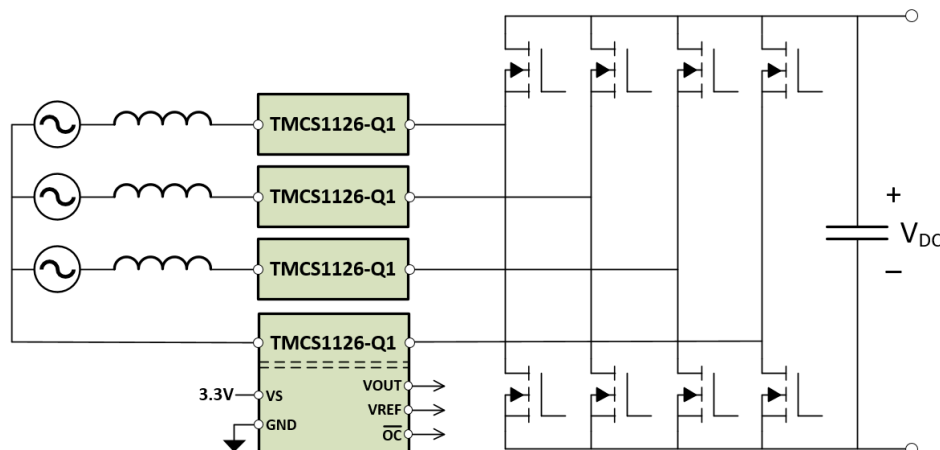

Figure 9-2. AC to DC Converter Current Sensing
In many applications, power must be converted from AC sources for use in DC circuitry. Some type of controlled power factor correction (PFC) stage is typically needed to improve power transfer efficiency. Faster and faster power switches are being used in modern PFC stages to reduce overall size and to improve power transfer efficiency. Often, the PFC stage of AC to DC converters is connected directly to AC power grids. A primary challenge to sensing in PFC stages is that the current sensor is subjected to large voltage spikes coming from the high-voltage (HV) power grid along with large transients coming from high speed power switches during charge transfer. Inherent isolation in the TMCS1126-Q1 construction helps overcome these challenges by providing high levels of isolation between the HV current sensing nodes and low-voltage control circuitry, with high common-mode transient immunity (CMTI). Figure 9-2 shows the use of the TMCS1126-Q1 measuring phase currents in a common AC to DC converter stage.